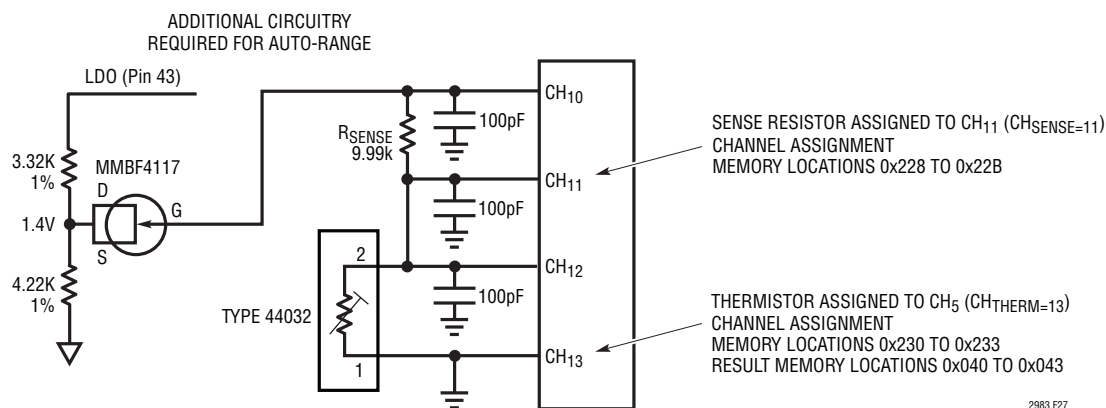

Figure 27. Differential Thermistor Example
*Additional Circuitry required for auto-range, see Figure 27 on page 49.
(5) Steinhart-Hart Address/Custom Table Address
Figure 27 shows a typical temperature measurement system using a differential thermistor. In this example a 30k Ω (44032 type) thermistor is tied to a 9.99k Ω sense resistor. The thermistor is assigned channel CH13 (memory locations 0x230 to 0x233) and the sense resistor to CH11 (memory locations 0x228 to 0x22B). Channel assignment data is shown in Tables 58 and 59).
Note 1: Additional Circuitry required for thermistors using auto-range. See Figure 27.